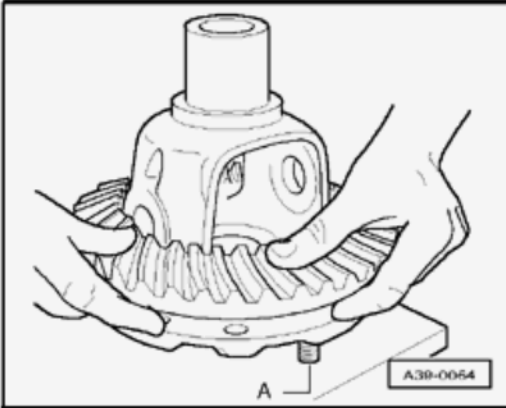

Fig. 85: Installing Ring Gear
- Install to differential housing. See Fig. 85